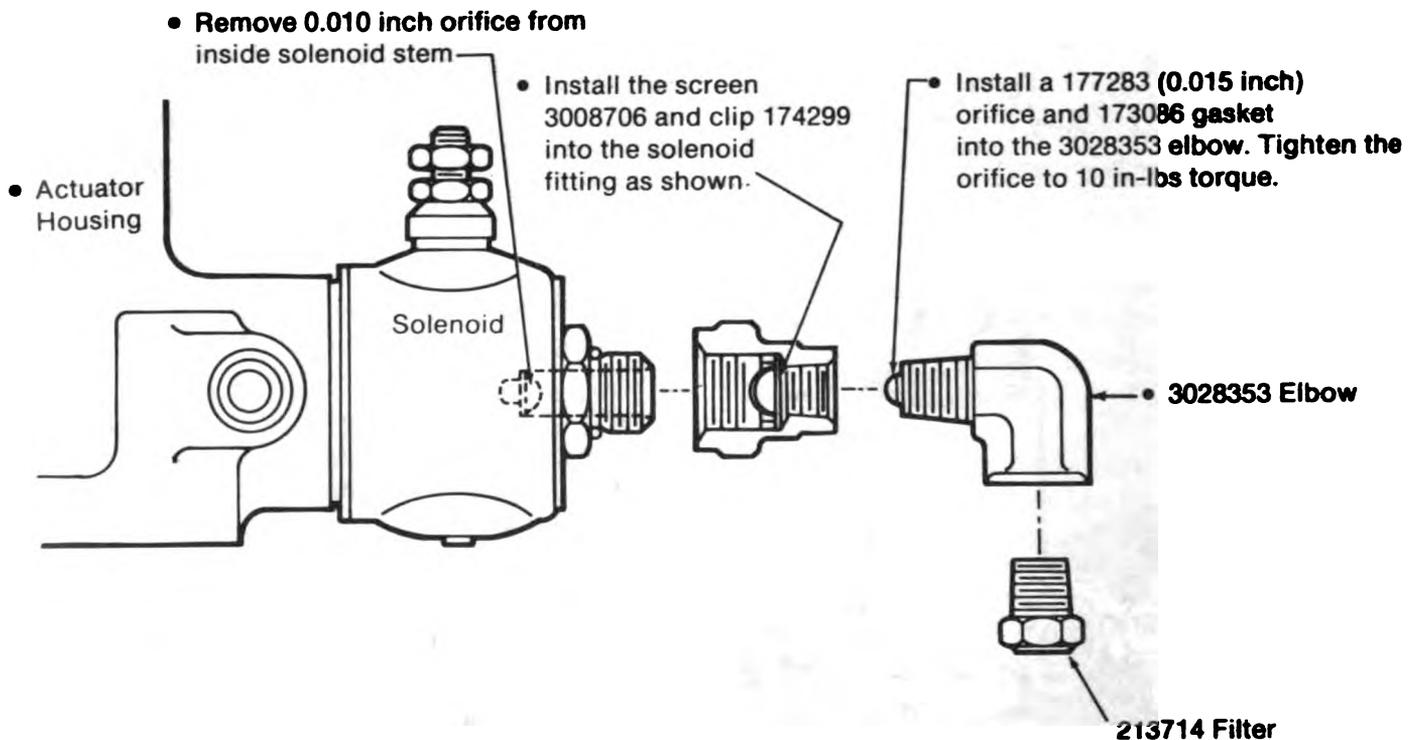

Fig. 4-40. Part No. 3028355 MVT Kit (Solenoid Valve)
23. Install the Part No. 3008706 Screen and the Part No. 174299 Clip from the MVT Kit into the solenoid adapter, Fig. 4-40.
25. Install the Part No. 177283 Orifice and Part No. 173086 Gasket from the MVT Kit into the Part No. 3028353 Elbow, also from the MVT Kit, Fig. 4-40. Tighten the orifice to 10 in.-lbs. [0.11 N•m] torque.
26. Install the Part No. 3028353 Elbow into the solenoid adapter, Fig. 4.40. Tighten the elbow to